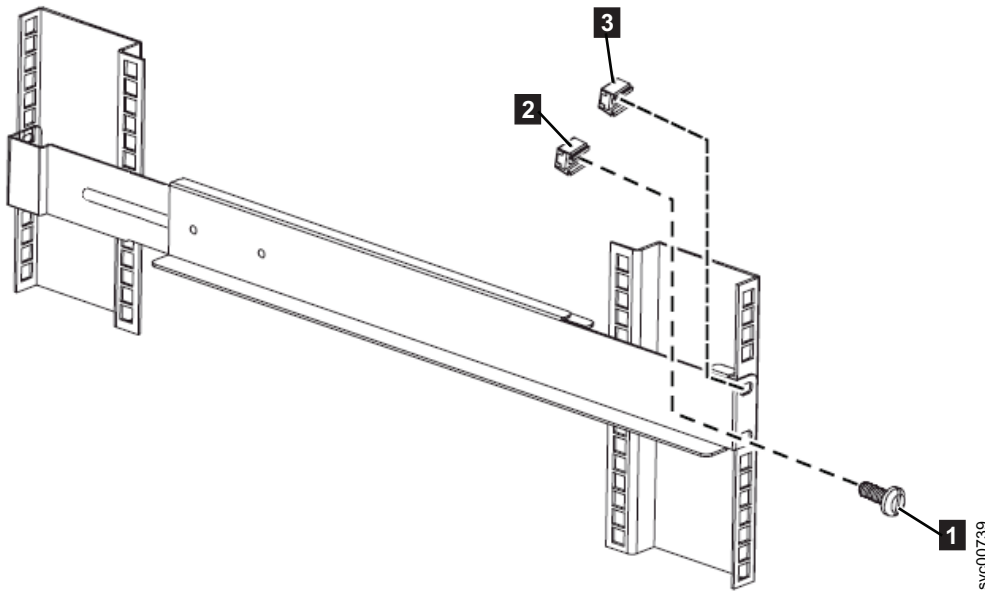

Figure 11. Attaching the front of the 2145 UPS-1U rail to the rack.
7. Install 2 clip nuts **2** and **3** to the front of the rack. Then attach the rail using just 1 M6 x 10 screw **1** in the bottom mounting hole as shown in Figure 11 on page 20.